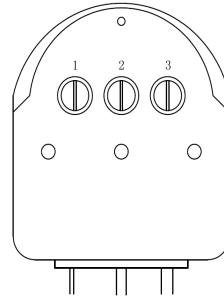

FIG. 3
1. After installation, please turn anti-clockwise the time adjuster (No:1 see Fig 3) to minimum and turn clockwise the day/night adjuster (No:3 see Fig 3) to day setting before you switch on the mains supply.